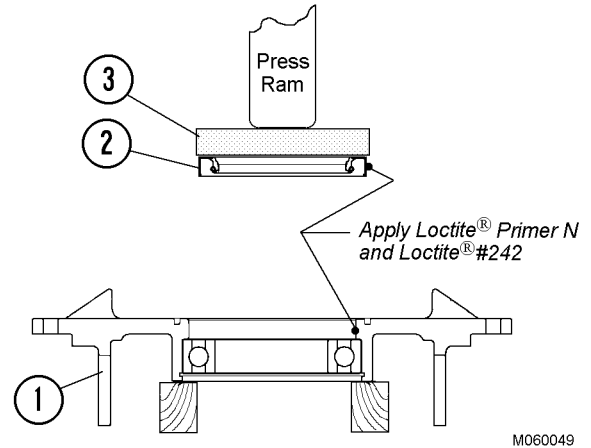

FIGURE 6-49. FRONT OIL SEAL INSTALLATION
8. Remove front bearing retainer from press bed and invert as shown in Figure 6-49. Place supports under bearing bore area.
- a. Apply Loctite® Primer N to O.D. of oil seal (2) and bore in bearing retainer.